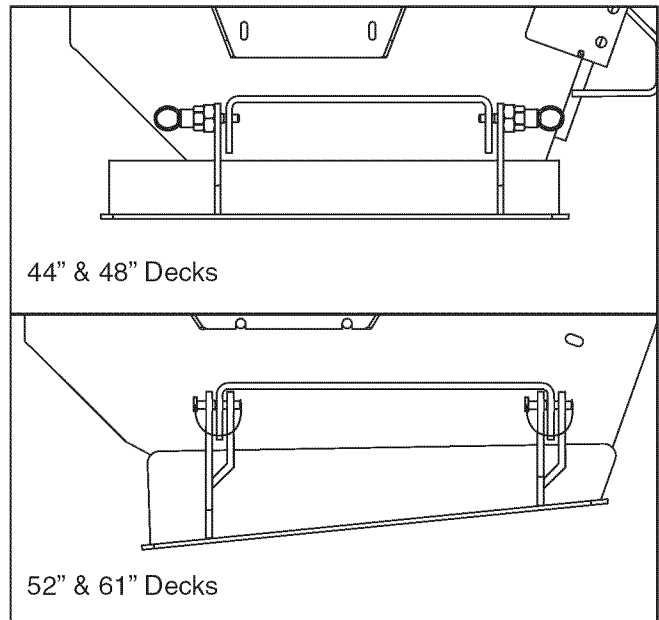

Figure 27. Install Blower On Deck (Notice Pin Orientation)
1. Install the blower onto the mower deck. Refer to Figure 27 for the position of the quick pins in relationship to the chute mount bracket on the mower deck. The quick pins fit into the same holes that the chute mount rod was installed.